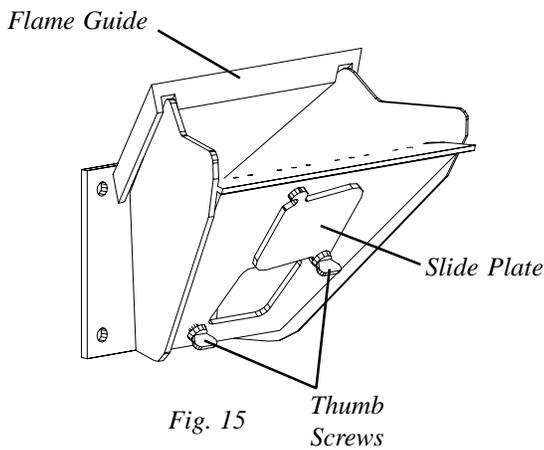

Fig. 15
- \* Remove, clean, and inspect flame guide for warpage and replace as needed, fig. 15. The flame guide is an expendable part and may need to be replaced in a few years.
- \* Open burn pot clean-out slide plate by loosening the two thumb screws and rotating the slide plate clockwise, fig. 15. Remove fly ash and replace slide plate.